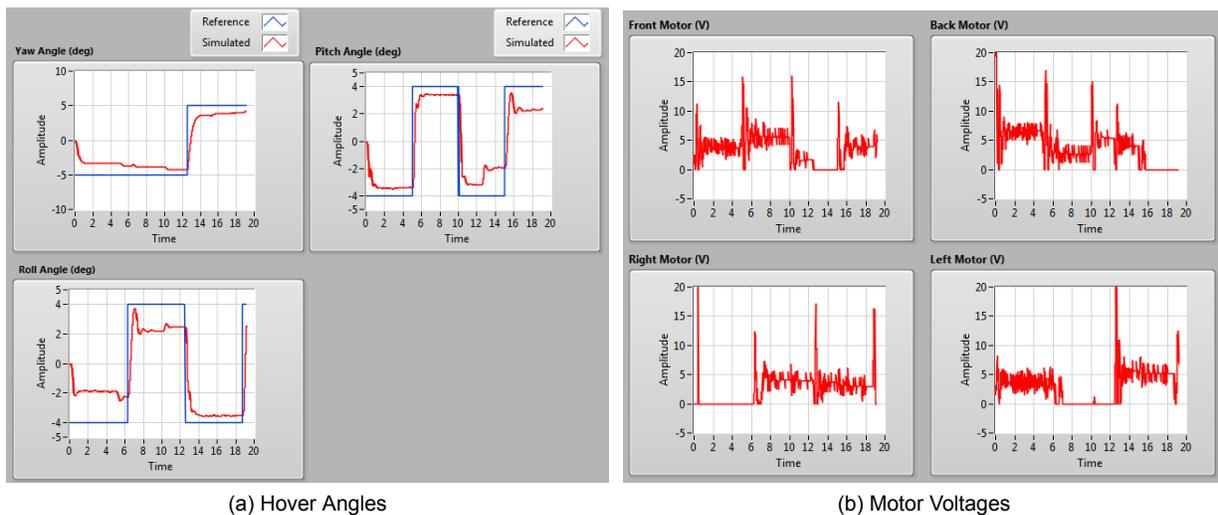

Figure 3.6: Sample closed-loop response of 3 DOF Hover
3. Run the VI. See the sample response shown in Figure 3.6 using a yaw step of  $\pm 5$  degrees at 0.04 Hz, a pitch of  $\pm 4$  degrees at 0.1 Hz, and a roll of  $\pm 4$  degrees at 0.08 Hz.
An example of the closed-loop balance response is shown in Figure 3.6.